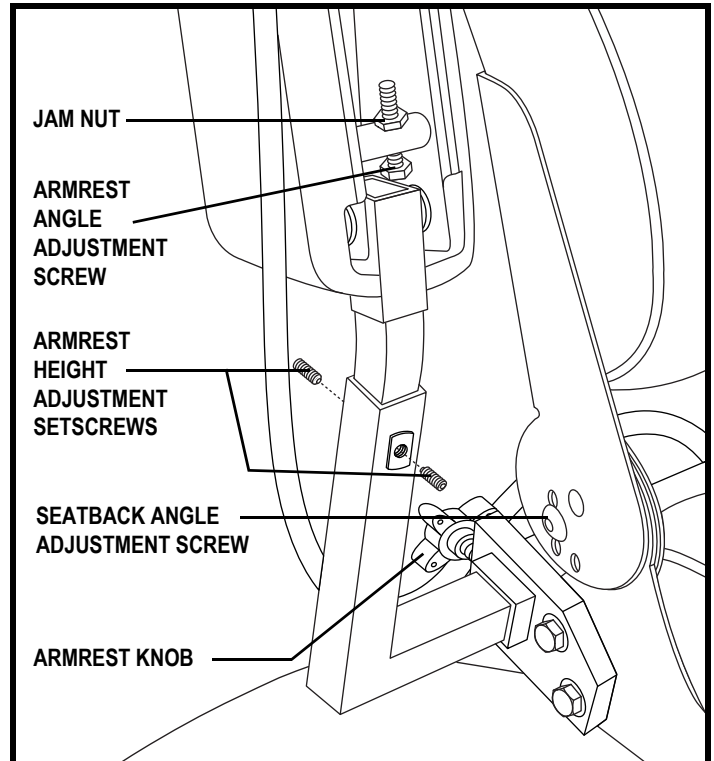

Figure 10. Seatback and Armrest Adjustment
1. Remove the seatback angle adjusting screws from each seat hinge. **See figure 10.**
1. Locate the armrest width adjustment knob or screw on each side of the armrest receiver bracket. **See figure 10 or 11.**
1. Loosen the setscrew on the armrest. **See figure 10 or 11.**